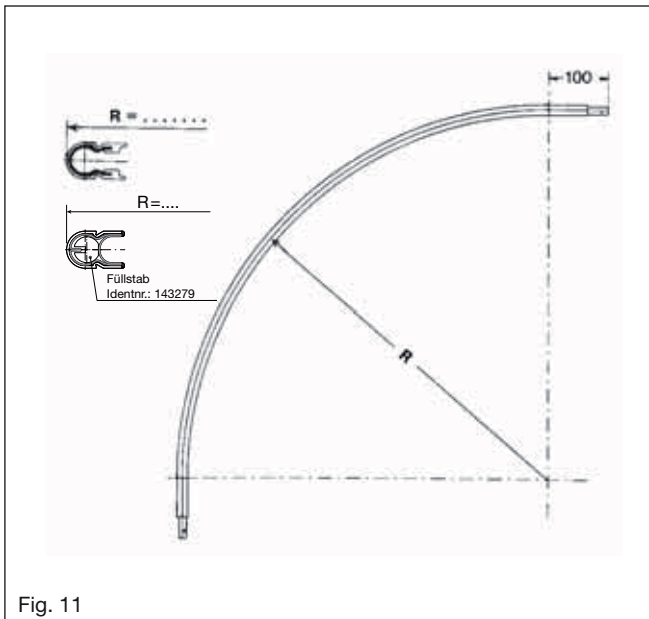

Fig. 11
- Draw radius of curve on a floor or flat surface (fig. 11)